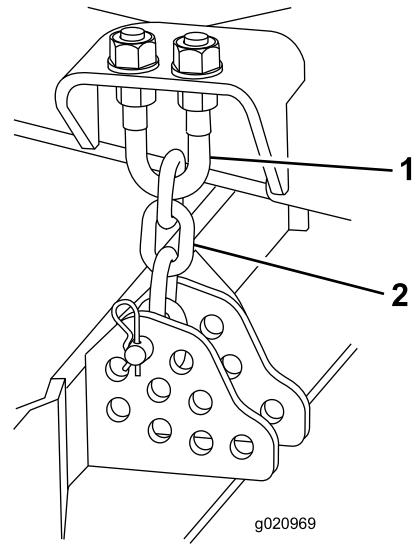

Figure 108
4. Remove the hairpin cotter and clevis pin securing the height-of-cut chains to the rear of the mower deck (Figure 108).